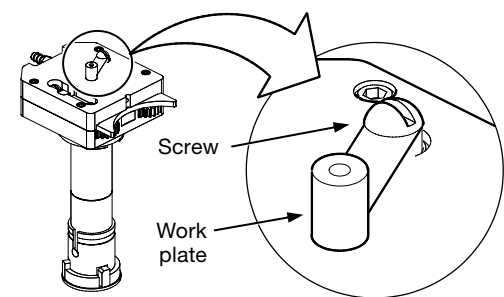

Figure 37 Inspecting the Work Plate and Plate Screws
12. Ensure that the work plate screw is tight and free from excessive oxidation. See Figure 37. Clean the work plate with a fine-grit abrasive pad if necessary.